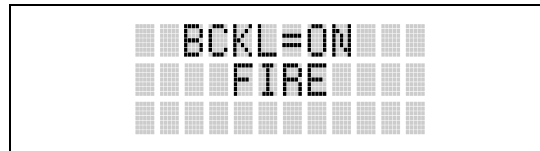

Figure 10-10: Backlight Menu Display
3. Press **[M]**. The backlight menu item is activated. Line one shows the active menu item and its current parameter setting. Line two shows the currently selected system or group name (see Figure 10-10).